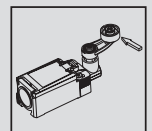

Fig. 2
- Additionally secured by guide plate for lateral approach forces (Fig. 2 and page 71)